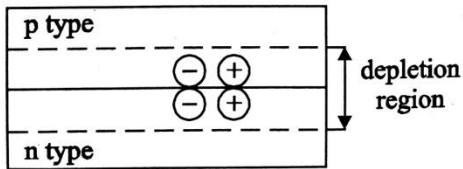

Fig. 4.17
3. These electrons and holes diffuse and reach the depletion region as shown in figure. 4.17.